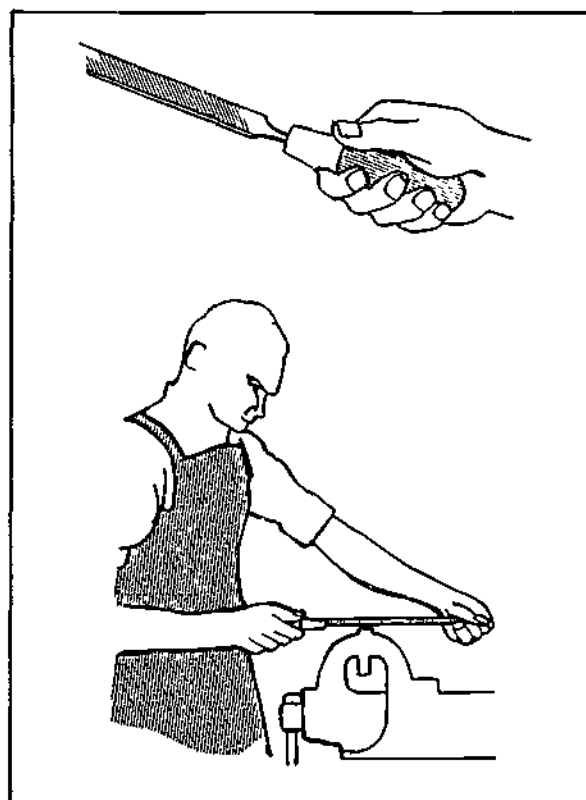

Figure 2-11. Using a File
- 1 Always use a properly fitted handle when filing to prevent hand injury (Figure 2-11). A loose handle can slip off unexpectedly.
- 3 Hold the file correctly (Figure 2-11).